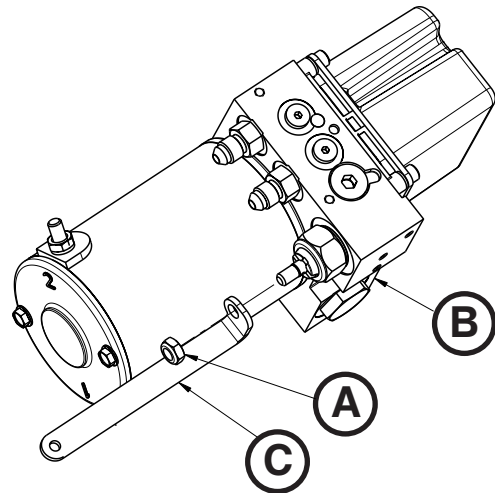

Figure 87
5. Using a 7/16" deep well socket and 3/8" drive ratchet, remove the Nylock Hex nut (A) that secures the non-locking manual valve (B) to the manual release link (C) (Figure 87).
Note: Place a 1/16" hex wrench through the slot on the non-locking manual valve (B) to keep it from turning (Figure 87).
6. Using a 7/8" deep well socket and 3/8" drive ratchet, remove the non-locking manual valve (B) (Figure 87). Discard the valve.